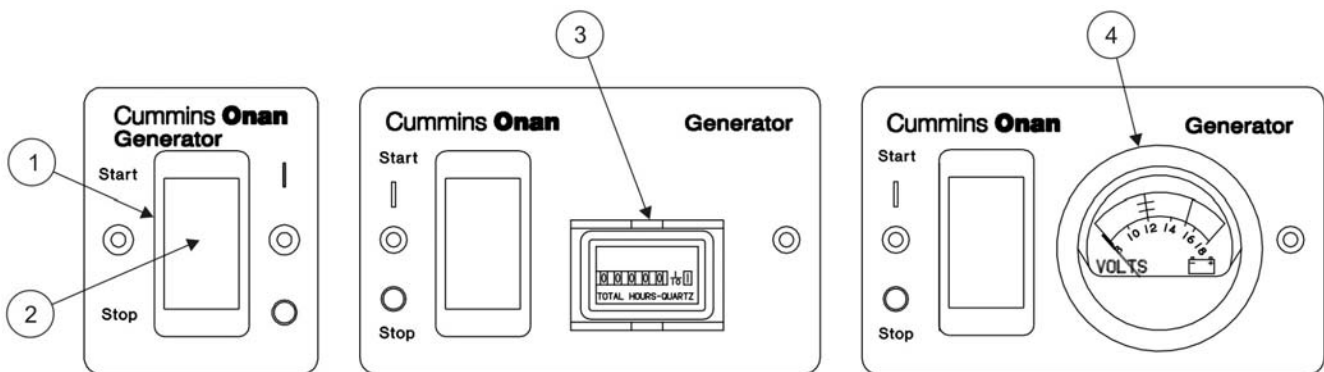

FIGURE 2-4. REMOTE CONTROL PANELS
- Control switch with status indicator (Figure 2-4). (1) Used to start and stop the generator set, and to prime the engine fuel system. Hold the switch in its Start position to crank and start the generator set. Press the switch to the Stop position to stop the generator set. Hold the switch in tis Stop position to prime the fuel system. (2) LED in the control switch that blinks rapidly during preheat and cranking. Stays on continuously after generator set is running. If the generator set shuts down abnormally, the indicator flashes a numerical code to indicate the cause of the shutdown the TROUBLE-SHOOTING (Chapter 4).
- Control switch with status indicator and an hour meter (Figure 2-4). (3) Records the total running time of the generator set. Cannot be reset.
- Control switch with status indicator and a DC voltmeter (Figure 2-4). (4) Displays voltage of the generator set. If the voltage across the 12 VDC control system consistently stays above or below 12 VDC, see MAINTAINING THE BATTERY AND BATTERY CONNECTIONS (Page 3-1).